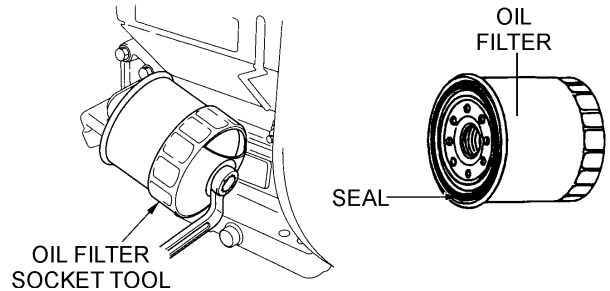

Figure 31. Oil Filter Removal
3. Use an oil filter socket tool and remove oil filter as shown in Figure 31
4. Clean oil filter mounting base, and coat oil filter seal (Figure 31) with clean engine oil.